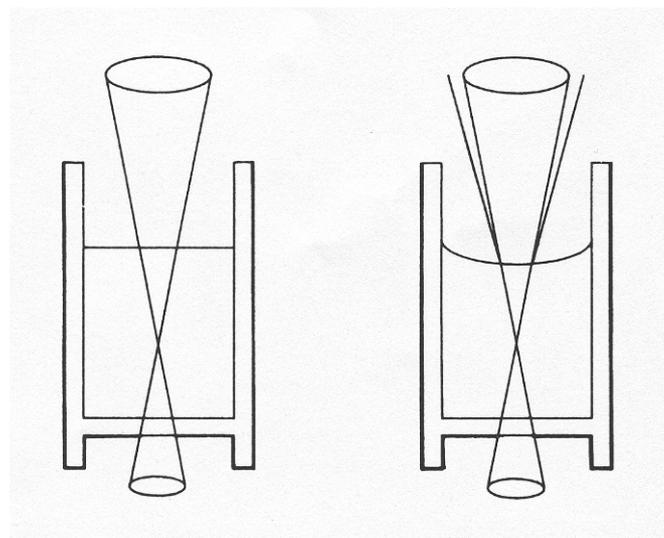

Fig. 4.4 Concave liquid surface acting as a negative lens
The concave surface of the solution causes another effect also, which will affect photometry. This effect arises from the fact that the concave surface functions as a negative lens (Fig. 4.4). The cone of the light leaving the surface will be wider, and some of the light is diverted enough to bypass the detector. Surfaces with identical curvature will cause equal losses of light at the detector and equal increase in the apparent absorbances at all absorbance values. The absorbance will be increased by an additive amount, and the "standard curve" will have the same slope as the actual curve, but intersects the absorbance axis above the origin as shown in Fig. 4.3, item 3.